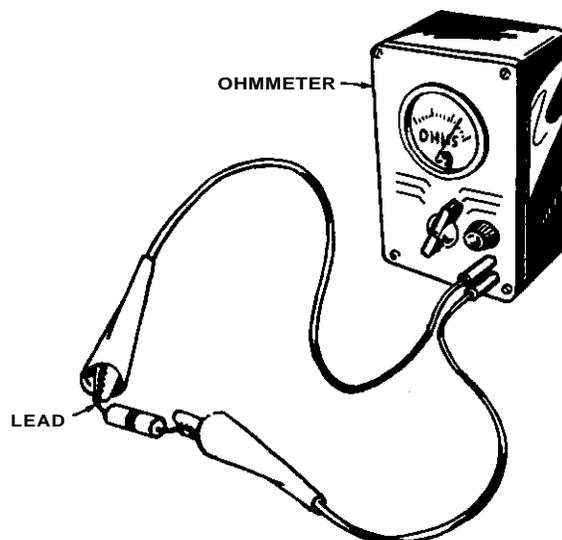

FIGURE 11. TESTING DIODES
2. Connect one lead to each end of diode and observe resistance reading. Figure 11.